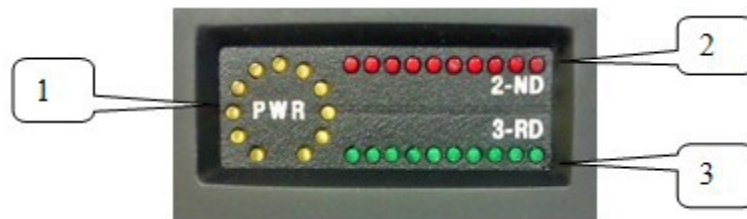

Figure 2, where
4.2. Replaceable antenna module with LED indicators (modification //08 //24 //36 m) provides indication of probing signal power, the received signal level of second and third harmonics as shown in Figure 2.